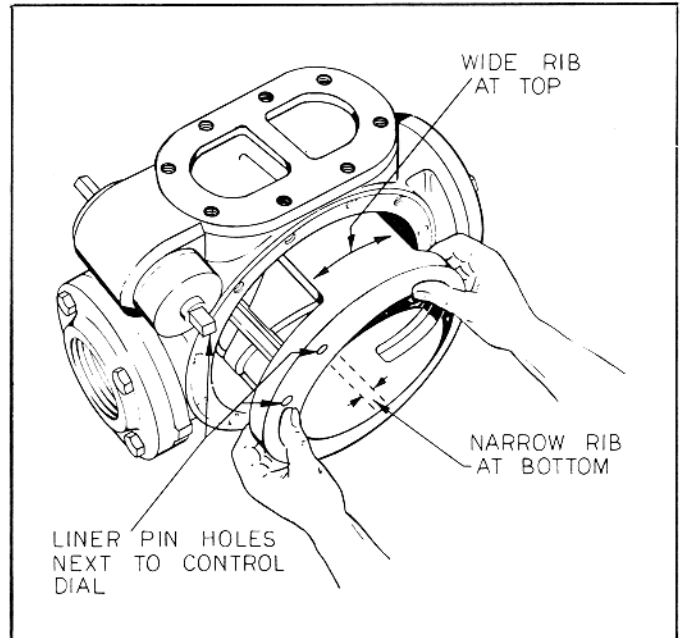

Fig. 6 — Correct Positioning for Replacement of Liner.
1. Release locknut on liner stop and screw stop all the way in. (See fig. 6)
Insert liner so pin holes are alongside the control dial, taking care that the wide rib is at the top and narrow rib is at the bottom, as shown in Figure 6. Then lower the gear segment through opening in top of cylinder so that setscrew of segment will lock against the upper liner pin (as mentioned in "Disassembly," older models may have the setscrew lock against the lower liner pin).